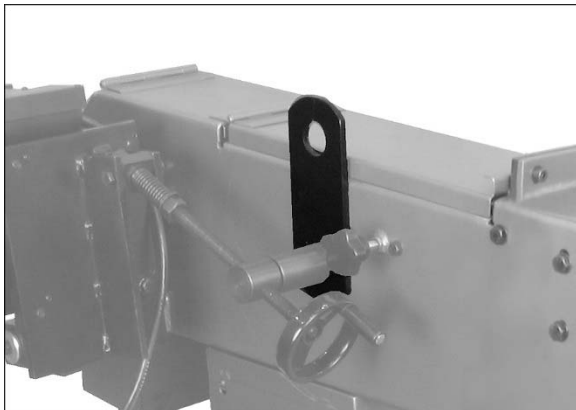

Figure 5-1
See Figure 5-1
4. Lift machine using hook or straps through lifting plate (Figure 5-1). Make sure lifting equipment capacity exceeds maximum weight of Notcher.